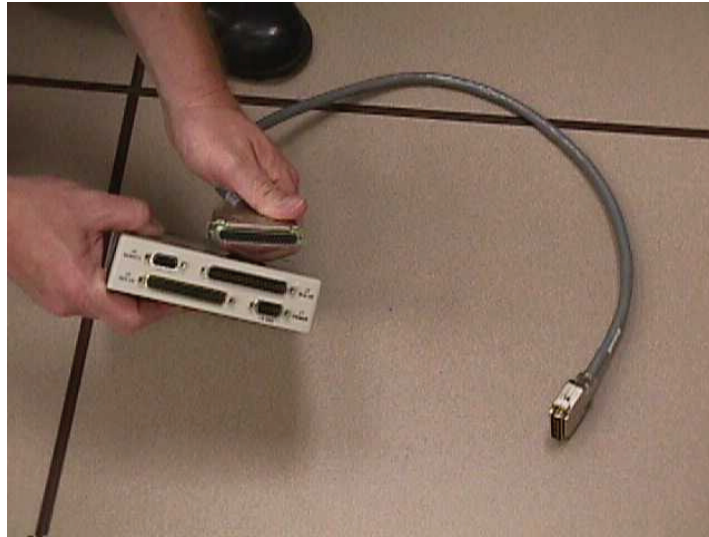

Figure 23. Cable 4.
- Cable 4 contains a 25-pin male connector and 37-pin female connector (Figure 23). The 37-pin female connector plugs directly into the KIV Black Port on the rear of the KIV. The 25-pin male connector plugs directly into the rear port of the ADTRAN into port DTE #2. Using a screwdriver, secure all cables.